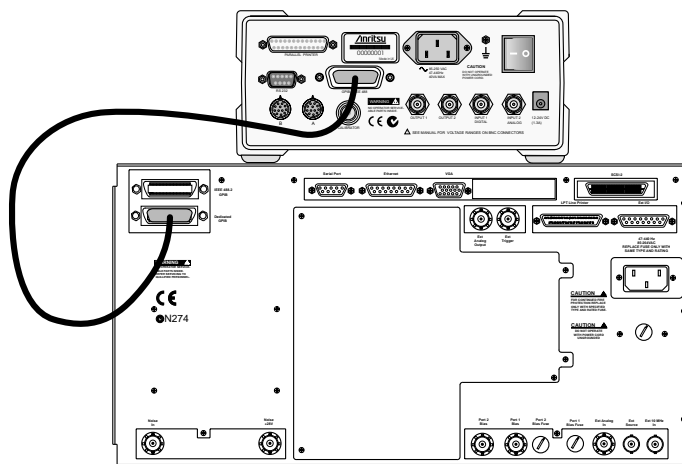

Figure 5-5. ML2430A Series Power Meter GPIB connection to the MS462XX Vector Network Measurement System
1. Connect a GPIB cable (Anritsu 2100-2) between the power meter GPIB connector and the MS462XX dedicated GPIB connector, as shown in Figure 5-5.